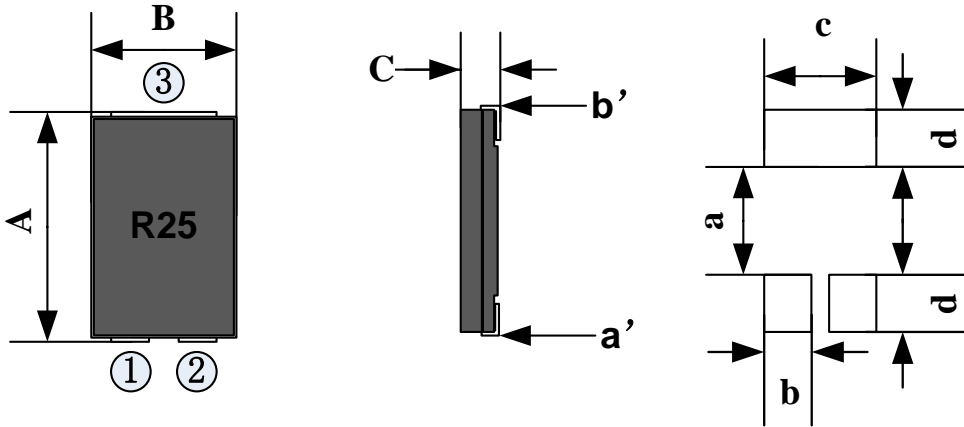

Fig.3-1
Dimensions and recommended PCB pattern for reflow soldering, refer to Fig.3-1 and Table 3-1.
- ※ Nominal DCR is measured from point a' to point b'. (see Fig. 3-1)